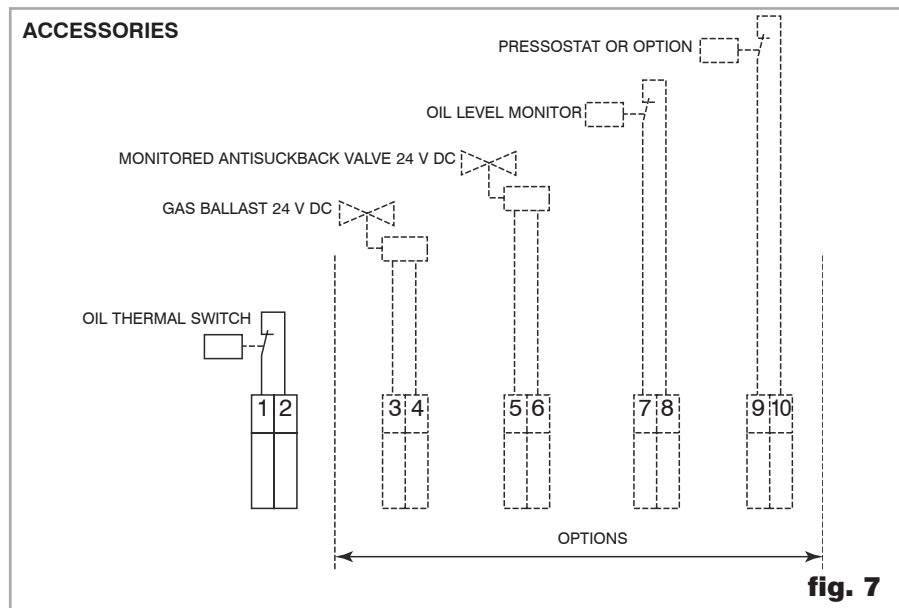

fig. 7
Connection has to be made in the junction box (see fig. 7).
The pump is switched off once a certain oil temperature (115 °C/239 °F) is exceeded. It is also possible to connect an alarm system. (see fig. 7).
To be wired in connection box (see fig. 7).
- Electromagnetic gas ballast valve 24 V DC. Connection has to be made on junction box (see fig. 7).
- Antisuckback valve driven by EM valve DC. Connection has to be made on junction box (see fig. 7).